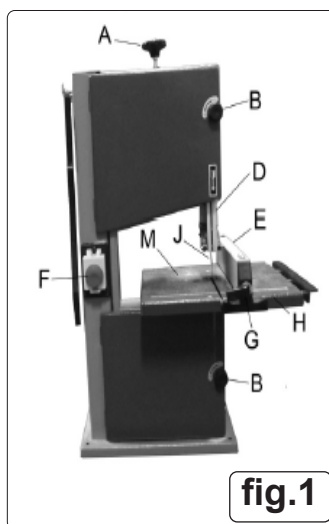
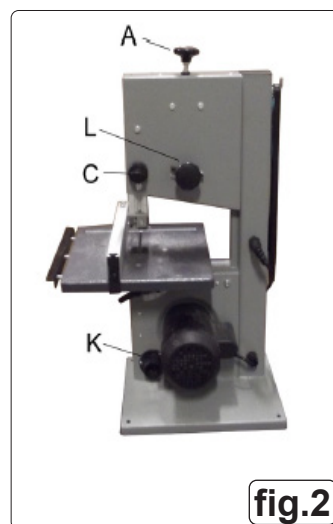

fig.1
fig.2
MAIN FEATURES (fig.1 / fig.2)
4.2.1. Before the working table can be positioned on the base under the u-plate (8) underneath. Carefully place worktable (fig.1.M) onto its supporting base, whilst sliding saw blade through its slot in the table. Fix to base with three bolts, nuts and washers supplied. Before finally tightening these, check that the table blade slot and saw blade are in line, set correctly and then tighten all fixings. Using a set square backed up to the saw blade, check that the worktable is square to the saw blade, if any adjustment is needed slacken the two bearings underneath the worktable near the angle scale, set table to correct angle, tighten the two bearings and then adjust the nut and bolt underneath the rear of worktable so that the worktable is just resting on the bolt head. Secure u plate (8) across the saw blade slot using two bolts and two plastic knobs.
5.2.2. Turn the blade tension knob (fig.1.A) to adjust the blade tension - clockwise to tighten, anticlockwise to slacken. Correct tension is reached when the blade gives slightly to firm finger pressure at mid-span. **DO NOT** over-tighten.
5.3.2. If adjustment is needed, turn the tracking knob (fig.2.L) whilst continuing to turn the upper blade wheel. Note the effect on the tracking and continue to turn tracking knob until tracking is correct.
5.4.1. The upper blade guide should always be adjusted to about 3mm above the workpiece. To adjust: Loosen the locking knob and turn the blade setting knob (fig.2.C) to lower the guide to required position. Tighten locking knob.
5.9.1. The fence (fig.1.E) is mounted on the table side guide (fig.1.H).
5.9.2. To reposition or remove the fence, push up locking handle (fig.1.G). To refit the fence, slide onto work table from the front or back as required. Push down handle (fig.1.G) to lock when fence is in required position.